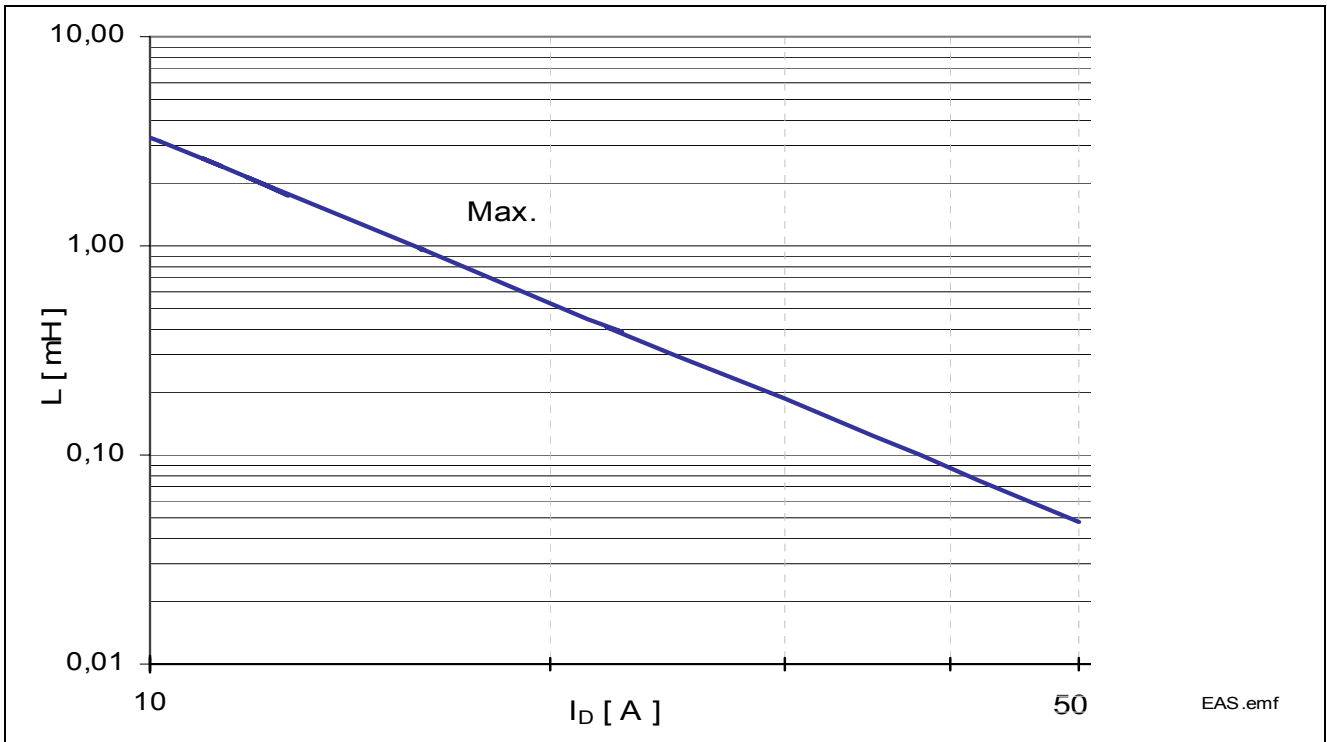

Figure 13 Maximum allowed inductance values for single switch off (EAS)
**Figure 13** shows the inductance / current combination the BTS 3256D can handle.